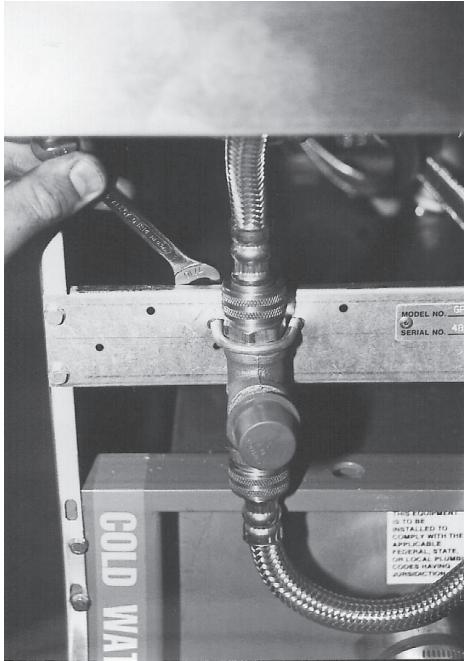

Fig. 77
2. From the rinse station with a  $\frac{7}{16}$ " wrench, disconnect the "U" bolt bracket from the hot and cold water fitting assemblies. (Fig. 77)